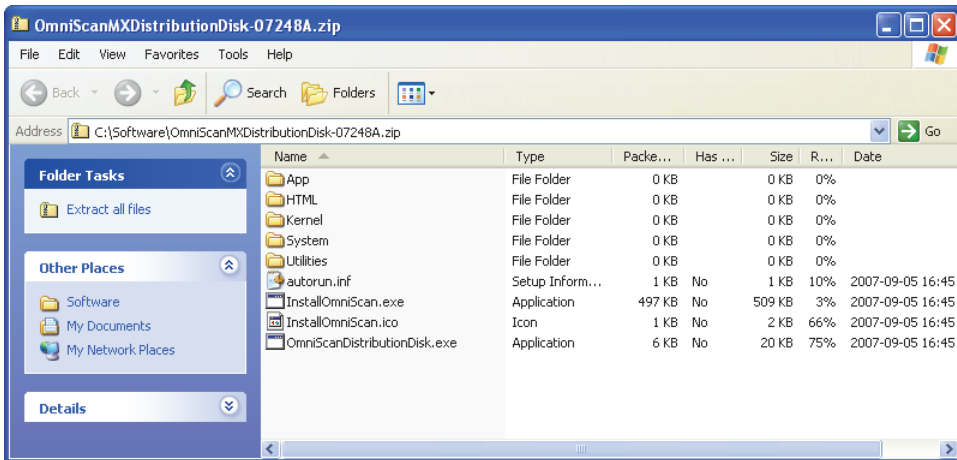

Figure 4-6 Zipped folder for the OmniScan software distribution
- In the zipped folder, under **Folder Tasks**, click **Extract all files** (see Figure 4-6 on page 68).